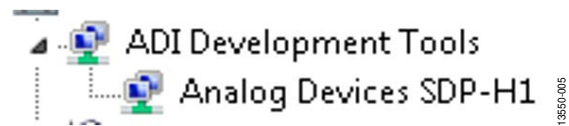

Figure 6. Device Manager
2. After the drivers are installed, check that the board has connected correctly by looking at the **Device Manager** of the PC. The **Device Manager** can be found by right clicking **My Computer**, selecting **Manage**, then **Device Manager** from the list of **System Tools** (see Figure 6).